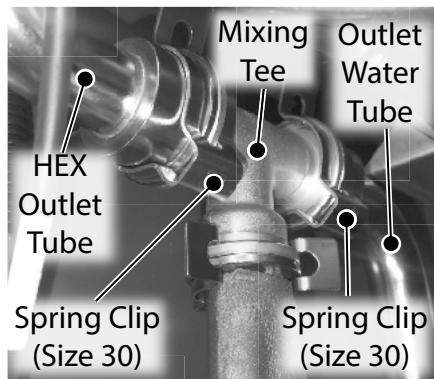

Figure 5 - Remove spring clips from HEX outlet tube and outlet water tube
- 16** Remove the two (2) spring clips (size 30) securing mixing tee to HEX outlet tube and outlet water tube as shown in Figure 5. Place spring clips aside in a safe place for reinstallation.